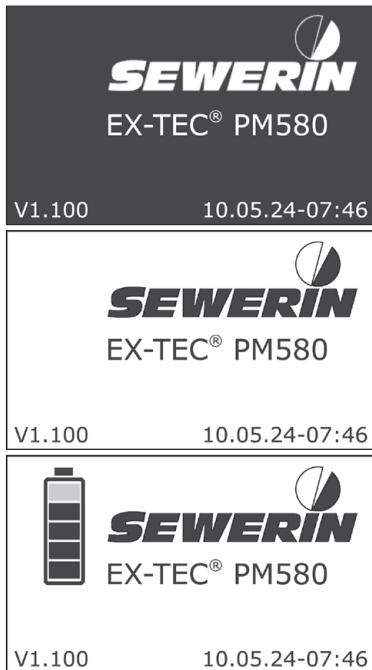

Fig. 9: Sequence of start images during switch-on process
- a) A sequence of start images appears (Fig. 9). The signal for the paused measurement is emitted.
This is done following the start images (Fig. 9).
This is done before the start images appear (Fig. 9).